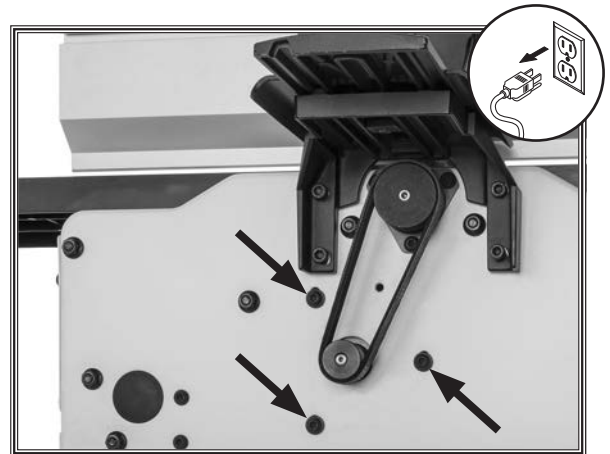

Figure 51. Location of screws around motor pulley.
2. Loosen (1) button head cap screw securing belt cover, then remove cover.
3. Loosen (3) button head cap screws around motor pulley (see **Figure 51**). DO NOT remove screws!